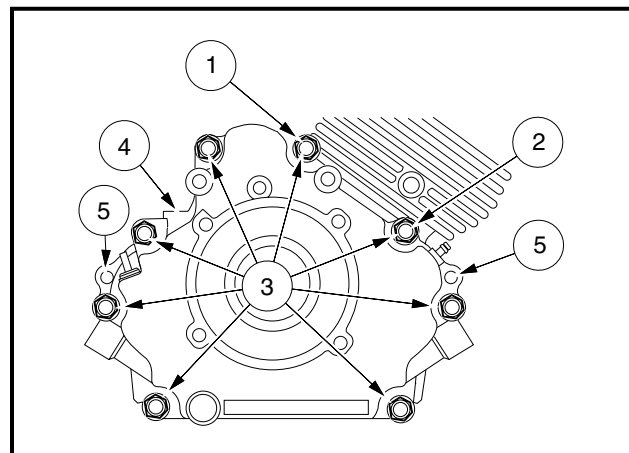

Figure 13-3 Crankcase Cover
2. Remove nuts and clamps at two-ended bolts (1 and 2) (**Figure 13-3, Page 13-4**).
3. Remove eight bolts (3) and remove the crankcase cover (4). See following **NOTE**.
**NOTE:** If the crankcase cover sticks, tap lightly with a plastic mallet on alternate sides near the dowel pins (5) (**Figure 13-3, Page 13-4**).